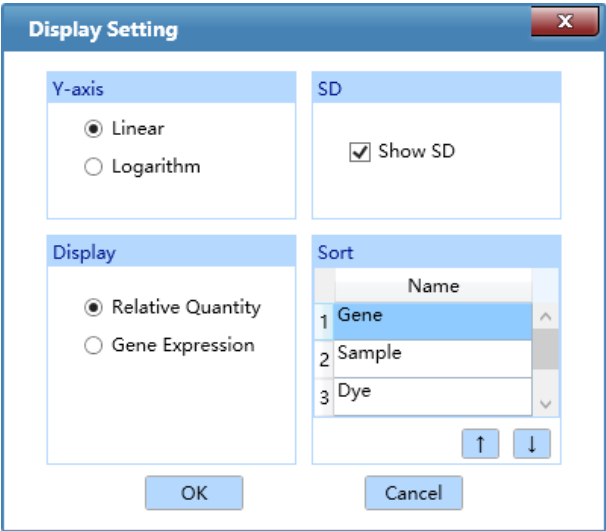

Figure D-11.2. Rel Quant Interface - Display Setting Window
- <  **Display Setting** >: user can click <  **Display Setting** > icon and the application software will automatically pop up the display setting window, as shown in figure D-11.2.